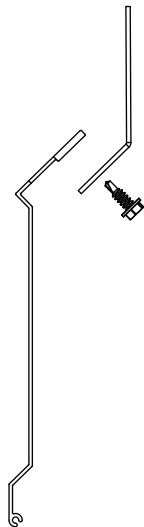

Figure 1
1. Attach counterweight bracket to the blade using the tek screws provided as shown in Figure 1 (Make sure the tek screws do not interfere with the blade above.)